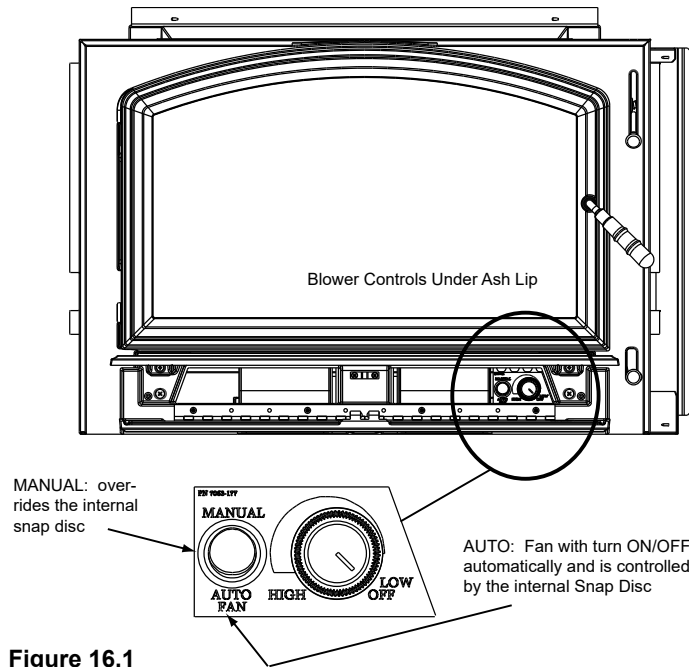

Figure 16.1
1. The blower will turn on/off automatically when set to **AUTO (Figure 16.1)**.